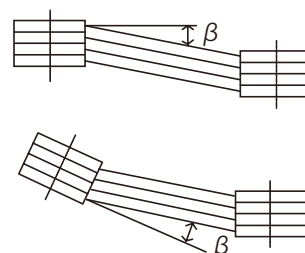

Fig. 5-4
- The parallelism, eccentricity  $\beta$  of the two pulleys should be within  $20'$ . (Fig. 5-4)